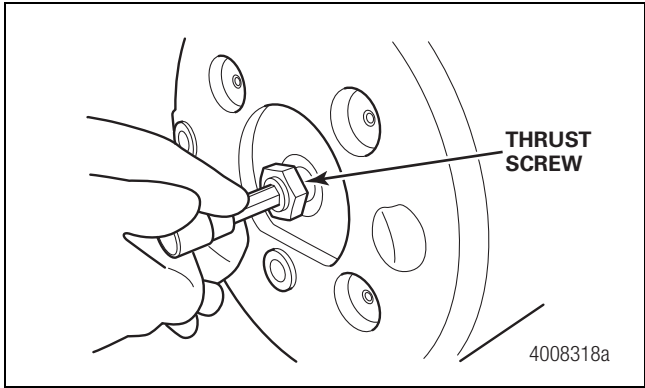

Figure 13.13
3. Install the thrust screw assembly and tighten it to the torque specified in Section 20, then back it off 180 degrees (1/2 turn). Figure 13.13.